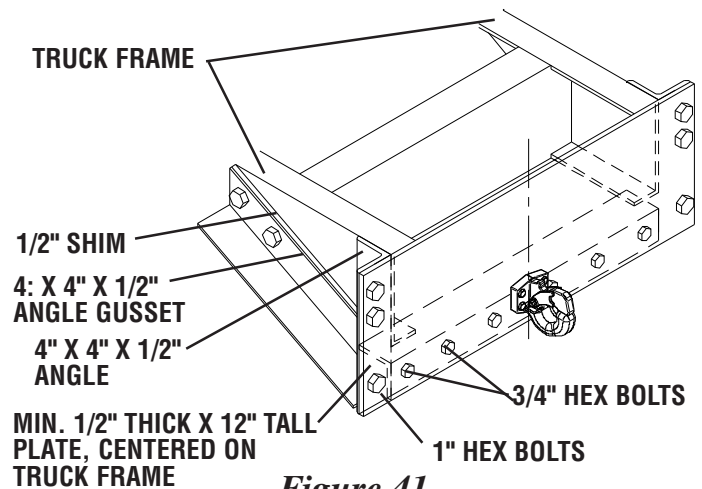

Figure 41
6. The plate needs to be a minimum of 1/2" thick and match the width of the truck frame plus the width of the angles. See Figure 41.